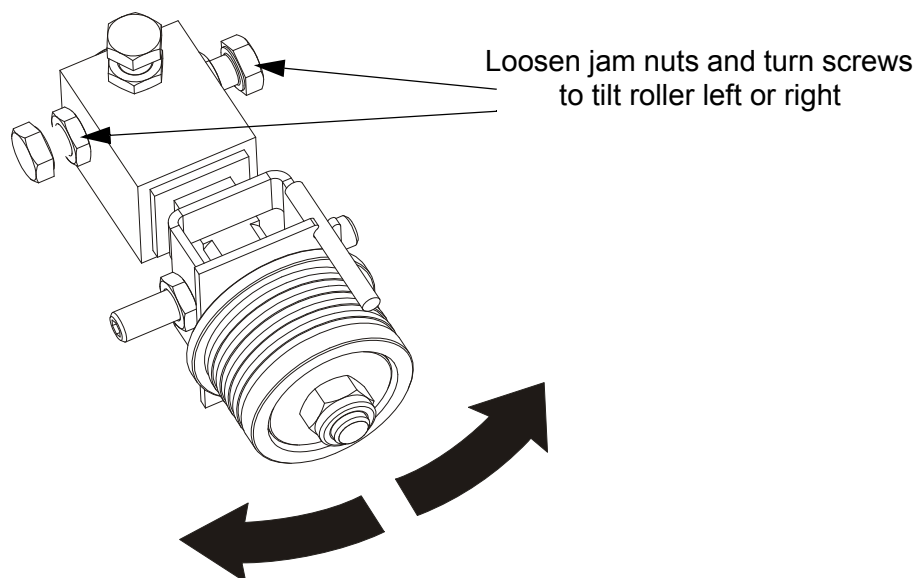

FIG. 5-32
**See Figure 5-32.** Loosen the jam nuts on the left and right horizontal tilt adjustment screws. To tilt the roller left, loosen the right screw and tighten the left screw. To tilt the roller right, loosen the left screw and tighten the right screw. Tighten the jam nuts and